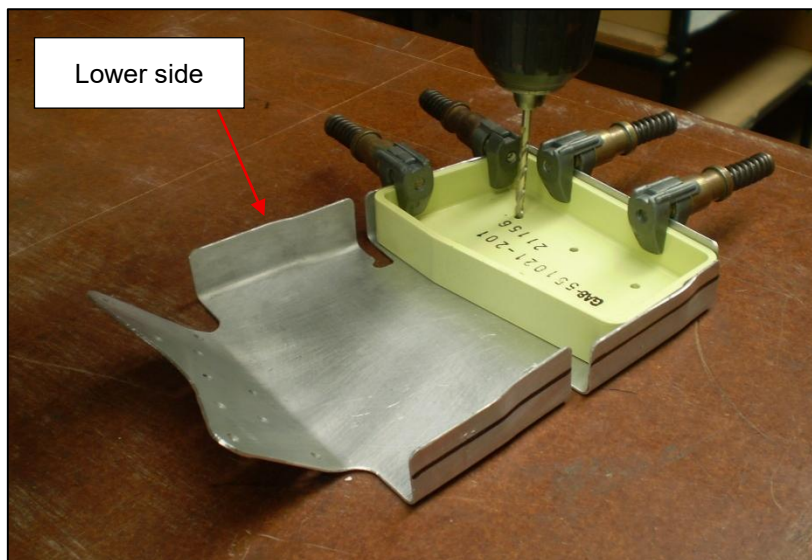

Figure 7: Typical Installation of Stiffener Brackets to Rib Sections
- 13.5.1 Fit Stiffener Brackets (Item 1 and 2 of Table 4) as shown in Figure 7. Position each bracket into the lower rear corner of each Rib 1 Section as tightly as possible (Cleco clamps are suggested) ensuring that the long edge of the bracket is on the lower side of the rib (i.e. the side where the Stabiliser Mounting Channel is) as shown below. Drill the 5 holes through the rib (hole diameter 0.125 – 0.135 in) and debur all holes.